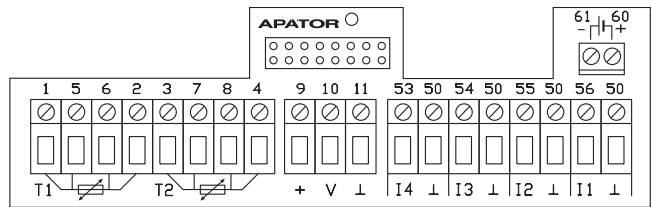

Fig. 14
- calculator with a strip for 4-wire temperature sensor, a strip for the connection of the main flow transducer and a strip for the connection of 4 additional devices (Fig. 14).
When measuring with 4-wire sensors (Fig. 14), the T1 sensor must be connected to the connector marked with numbers 5, 6 and 1, 2, whereas the T2 sensor – to connector no. 7, 8 and 3, 4.